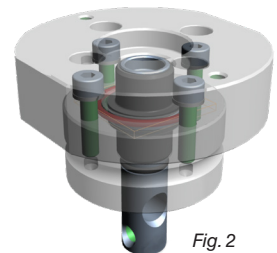

Fig. 2
**For the installation of the sensor S1 (tractor side) the use of the special support "Fig. 2" on page 5 is foreseen, designed to avoid that the mechanical stress is transferred on the sensor shaft, causing an undesired wear and consequent possible breakage over time, reducing the useful life of the sensor.**